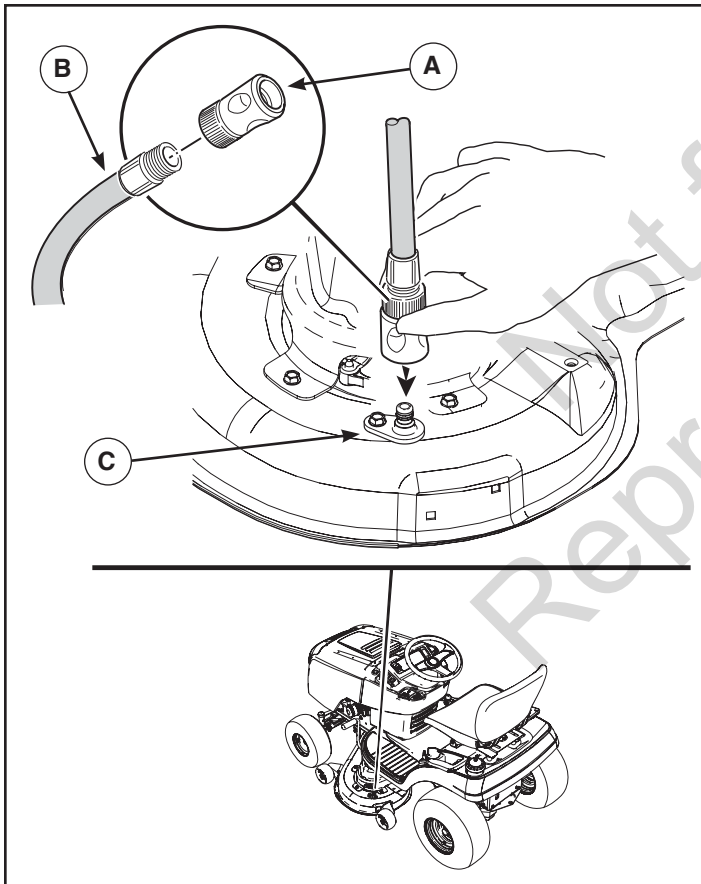

Figure 13
2. Attach the quick disconnect (A, Figure 13) to garden hose (B) and connect to washout port (C) on mower deck.